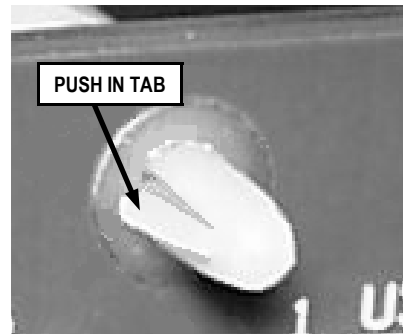

Fig. 12: Push in tab to detach "snap lock" type standoff.
3. Remove the Accelerator board as follows: Remove power from the main motherboard PCB, then move the MEMORY BACKUP CELL jumper from the IN position to the OUT position. Remove the male-to-male standoff thumb nut. Push in the tabs of the two white nylon snap-lock standoffs as shown in Fig. 12 and carefully remove the Accelerator board. Check for and straighten any bent pins and try re-installing the Accelerator board again.